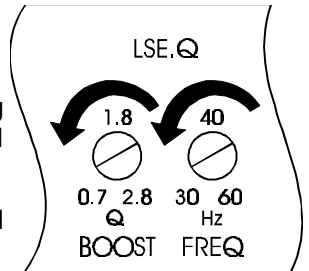

FIG. 6 LSE.Q Setting
- 1 Adjust frequency and boost control to full CCW position. (See figure 6)